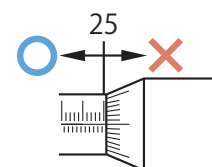

Fig. 2
1. Do not retract the spindle too far past the upper limit of the measuring range, as this can damage some types of digital micrometer. **(Fig. 2)**